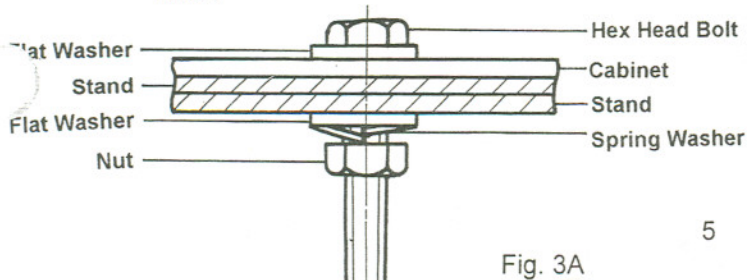

Fig. 3A
2. Attach saw to stand with four M8x30 hex cap bolts, eight M8 flat washers, four M8 lock washers, and four M8 hex nuts. Tighten the saw to stand hardware firmly. (Fig. 3A)